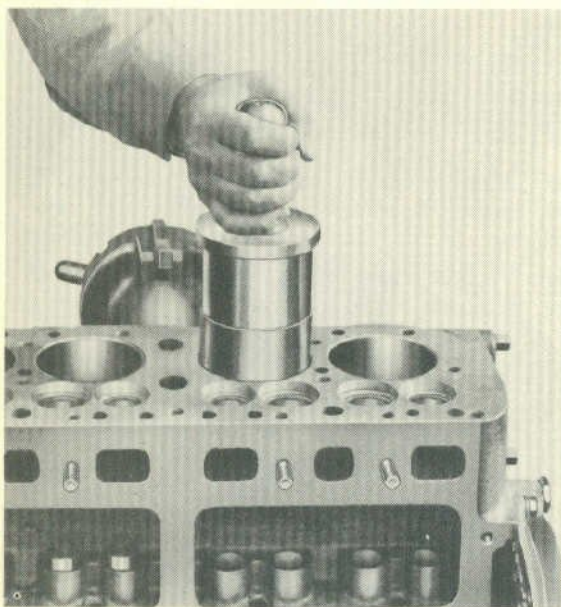

Fig. 8
Step 3—Install new cylinder sleeve as shown in Figure 8.